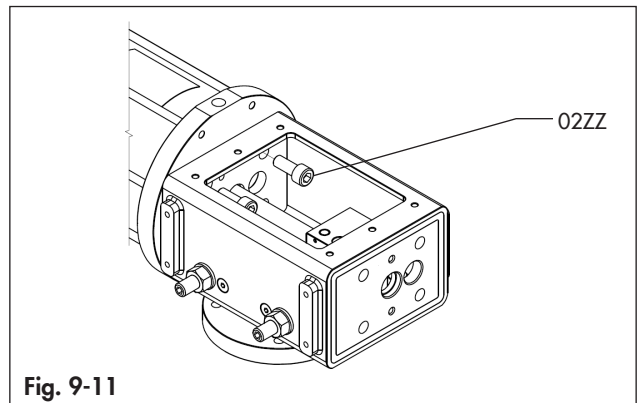

Fig. 9-11
- Remove the screws (02ZZ) (Fig. 9-11).